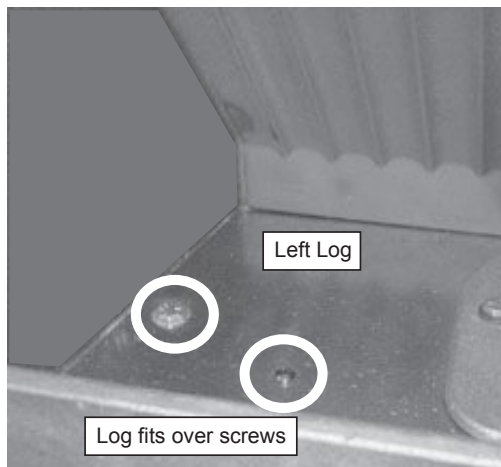

Figure 19.1
1. Place the left log as shown. There are 2 indentations in the bottom of the log to fit over the screw heads in the firebox. **Figures 19.1 and 19.2**